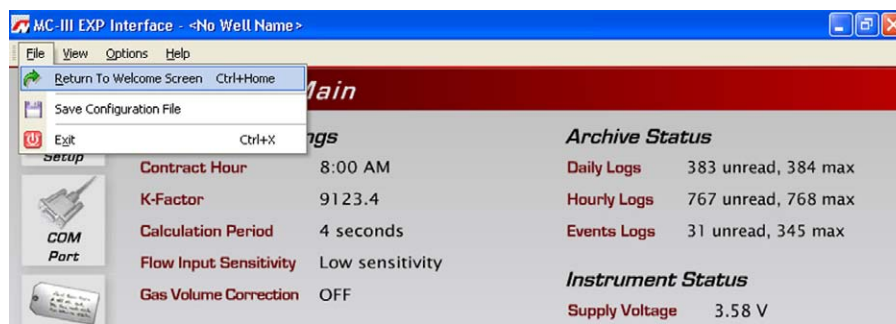

Figure 4.36—File dropdown menu allows user to return to the Welcome screen
1. From the Main screen, select File>Return to Welcome Screen (Figure 4.36).